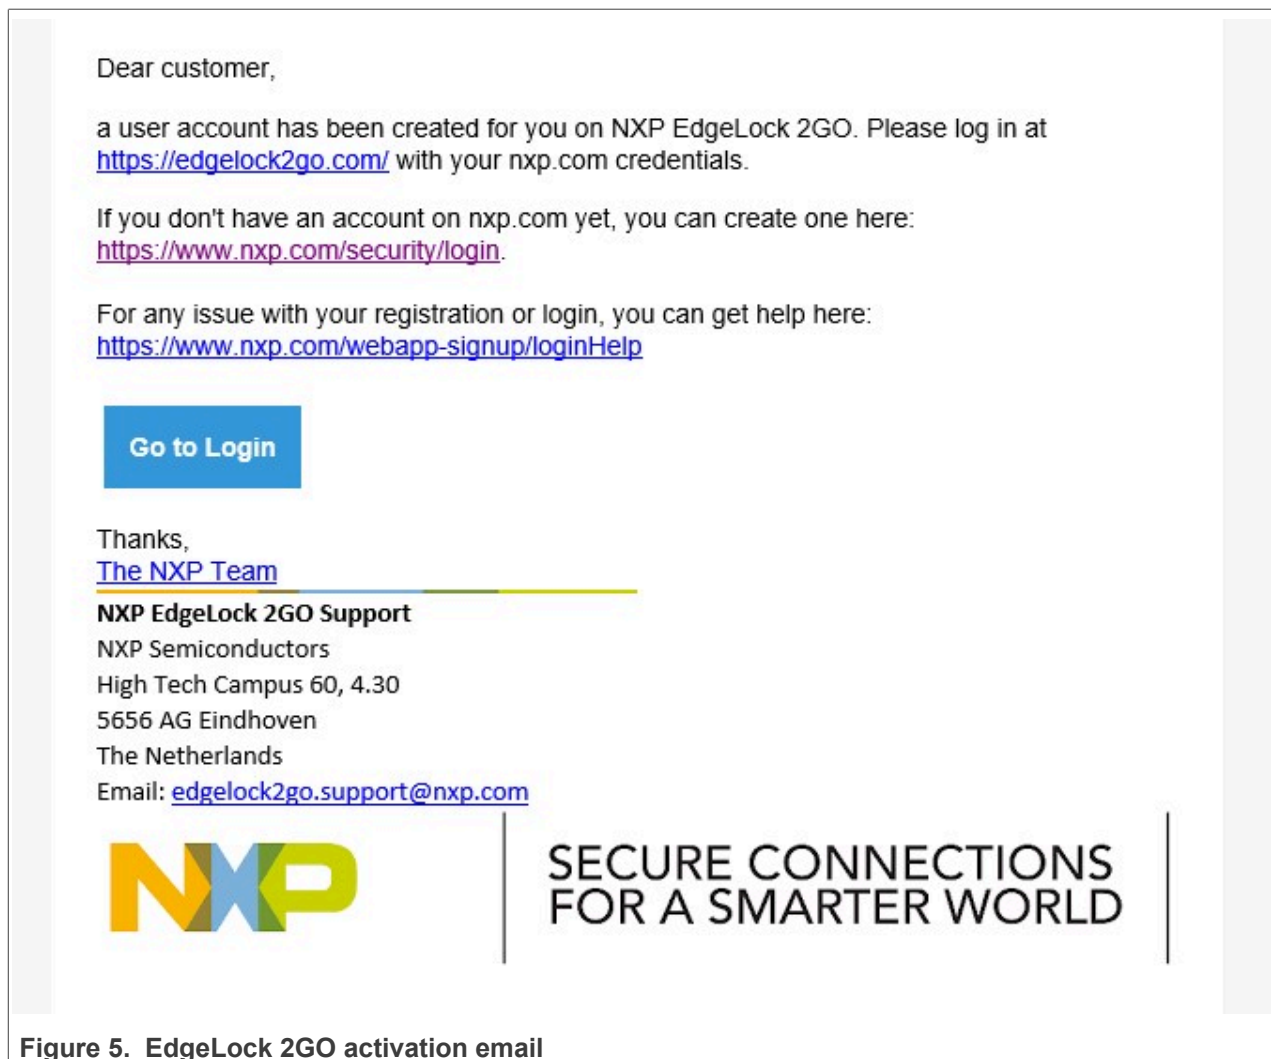

Figure 5. EdgeLock 2GO activation email
- An NXP representative will review your application. If you are eligible for an account, you will receive an email similar to the one shown in Figure 5. Use the Go to Login button to perform the first login using the NXP credentials associated to the email you provided. For information on how to log in to EdgeLock 2GO follow the instructions in Section 4.2.